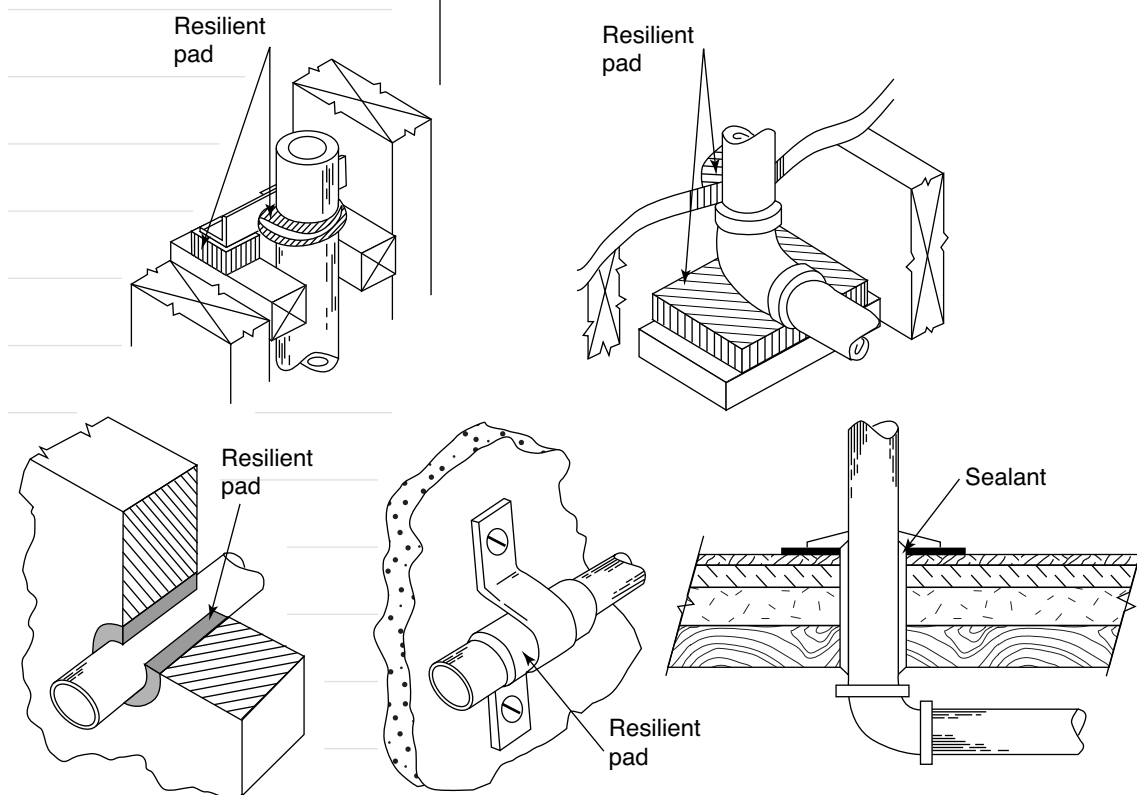

FIGURE 21
- ◆ To avoid vibration, isolate the pipe system with resilient sleeves and hangers. Avoid all rigid contact with the building structure (see Figure 21).